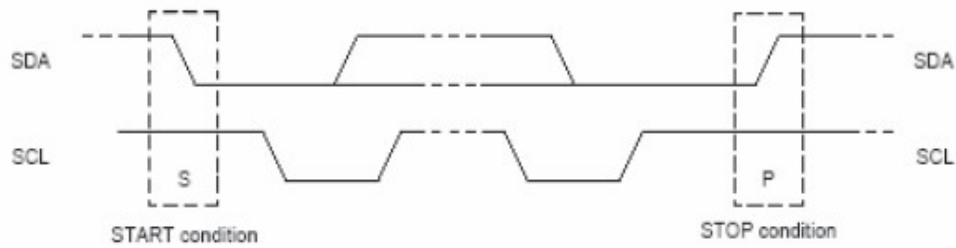

Figure 8. Definition of Start and Stop Condition
Both data and clock lines remain HIGH when the bus is not busy. A HIGH-to-LOW transition of the data line, while the clock is HIGH is defined as the START condition(S). A LOW-to-HIGH transition of the data line while the clock is HIGH is defined as the STOP condition (P), see Figure 8.